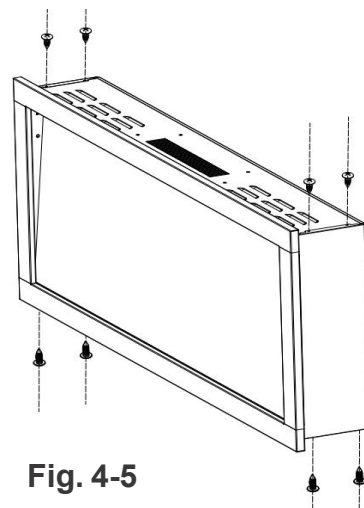

Fig. 4-5
B. Fix the panels by using the shorter screws (**K**) provided. (Fig 4-5)